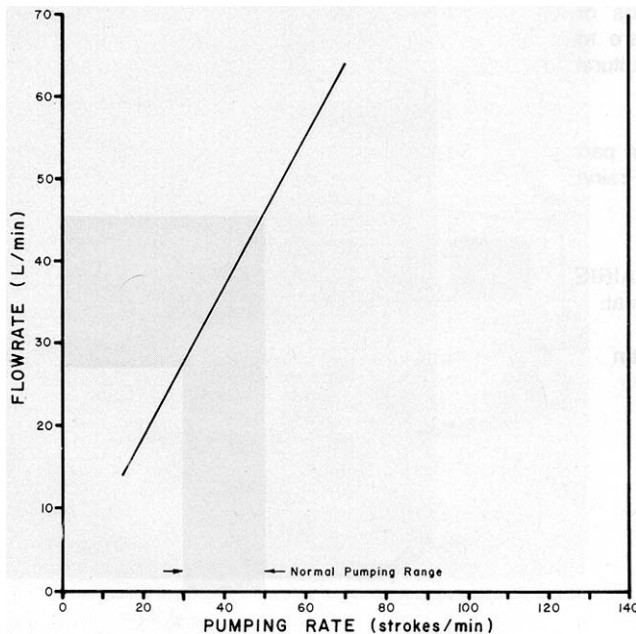

FIGURE 2. Flowrates with Diesel Fuel at Zero Suction and Discharge Heads.
**Flowrate:** Pump performance characteristics with diesel fuel at zero suction and discharge heads are given in FIGURE 2. Suction head is the distance the fuel level is below the pump intake valves and discharge head is the height the outlet nozzle is held above the pump.